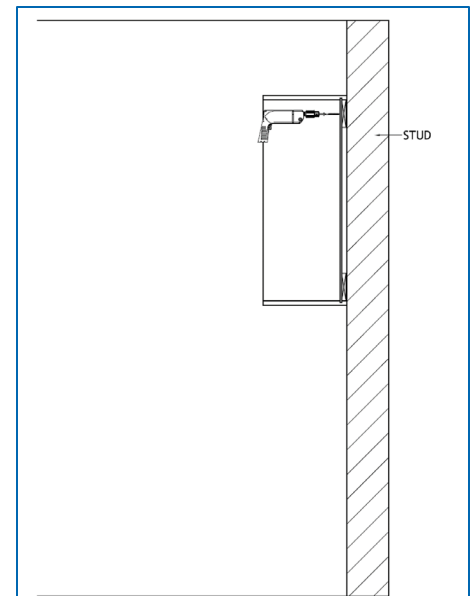

Figure 5
- Secure the cabinet to the wall, screw through hanger rail and into studs. (figure 5)